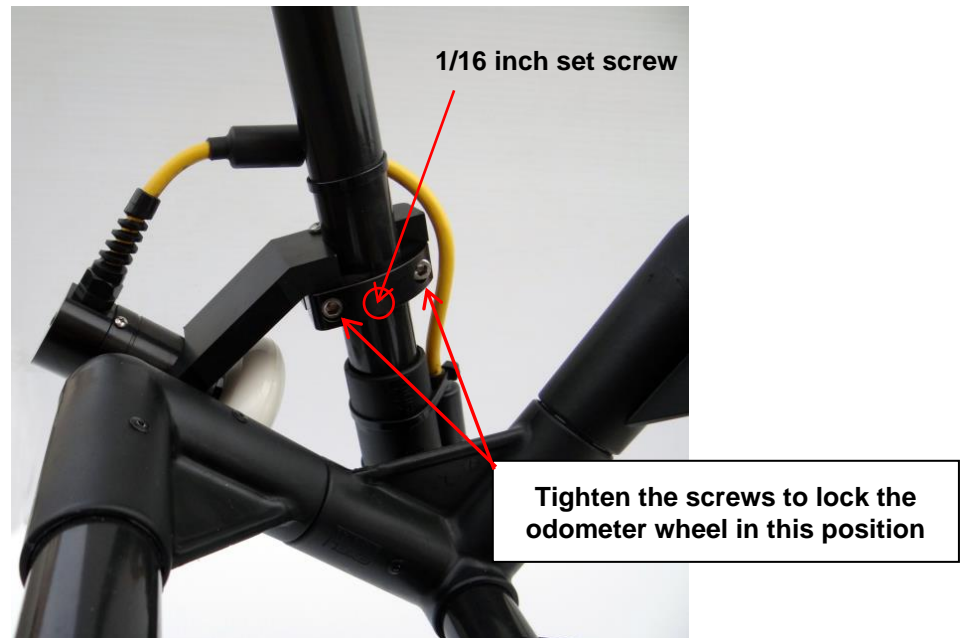

Figure 2-14: Adjusting and tightening odometer wheel bracket
- c) Tighten the screws to lock the odometer wheel in this position (Figure 2-14).